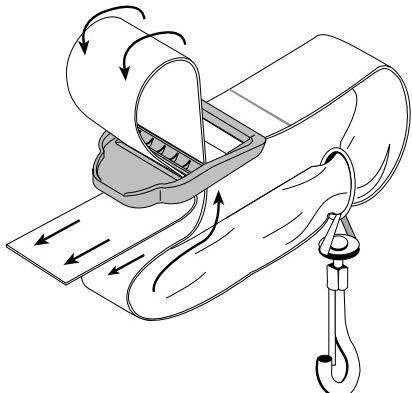

Fig. 3-4
2. Pull the strap over the cross bar and down through the slot in the buckle (Fig. 3-4).